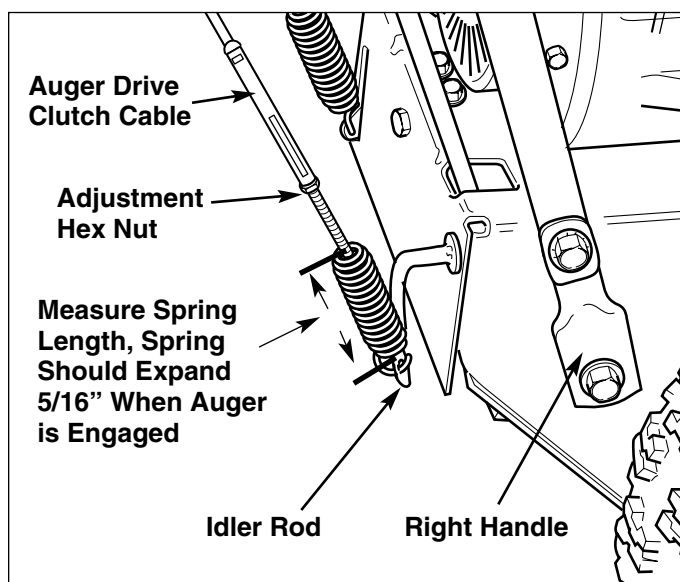

Figure 24. Auger Drive Clutch Cable
2. Check that there is no slack in the auger drive clutch cable (see Figure 24). If there is, follow the auger drive clutch cable Adjustment procedure on page 24.
3. Measure the length of the auger drive clutch spring (Figure 24).